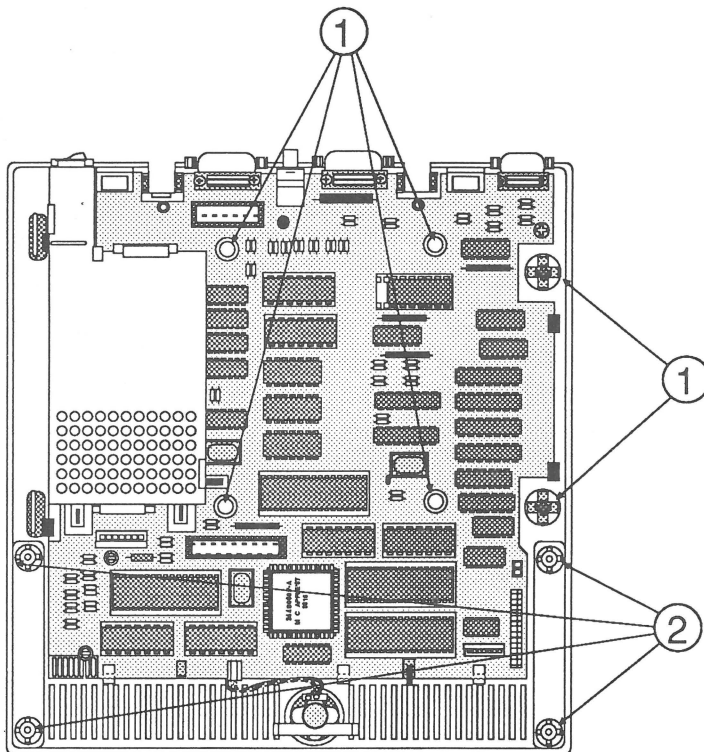

FIGURE 7
6. Place the disk drive in position on its six support posts (Figure 7, #1).
9. Place the keyboard in position on its four support posts (Figure 7, #2).